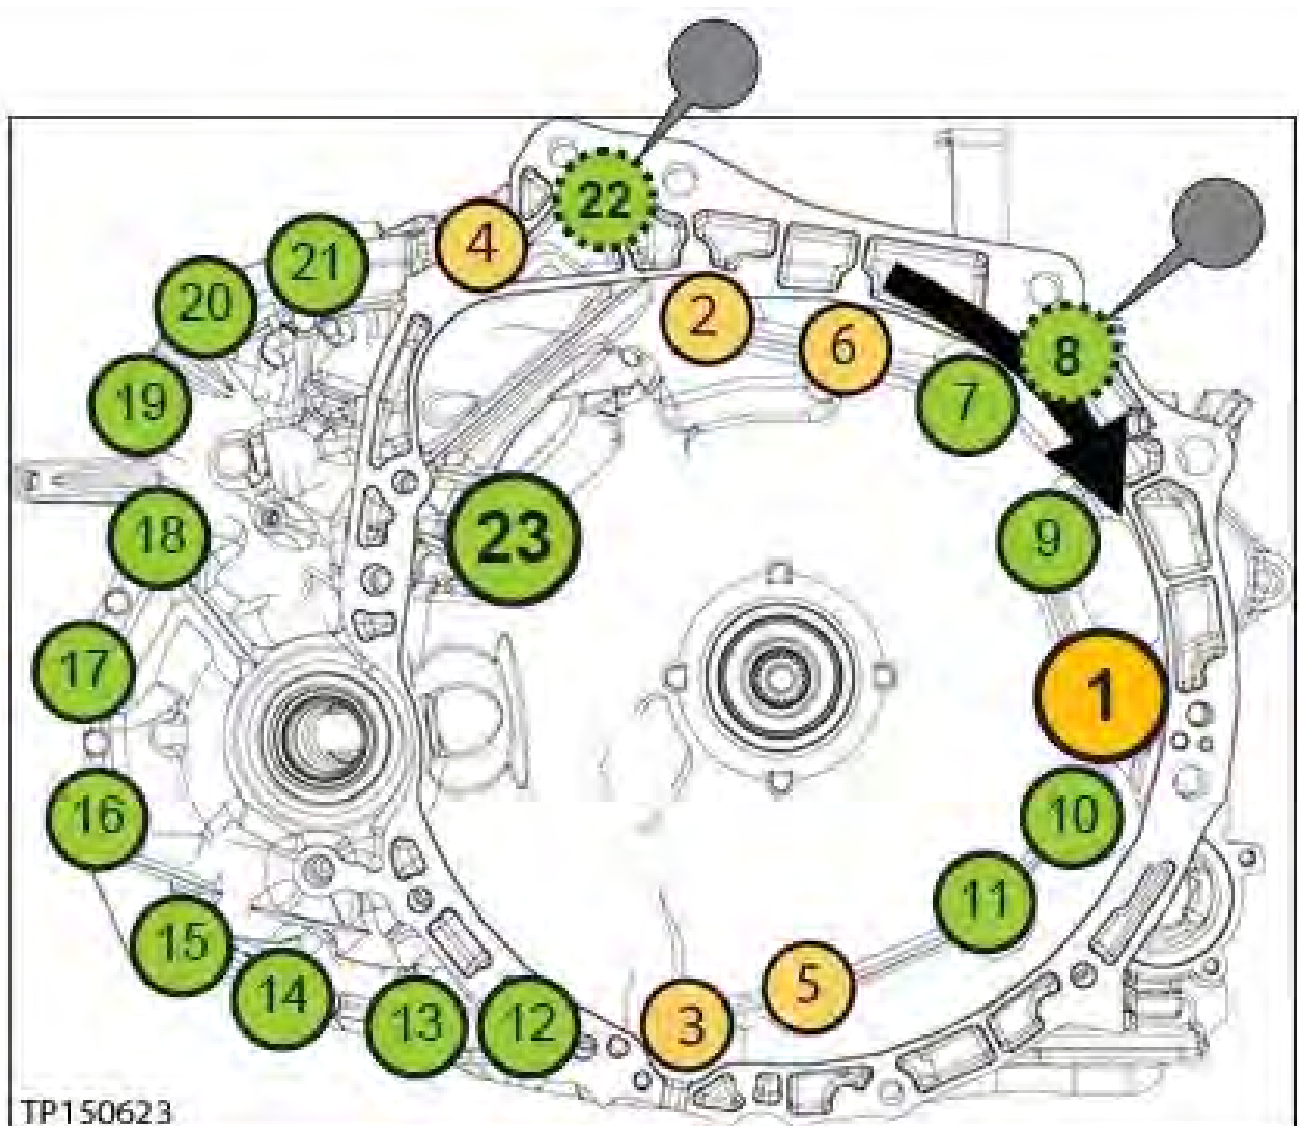

Figure 149
114. Install the converter housing onto the CVT case (see Figure 149 for torque sequence):
- a. Torque the first six (6) bolts with symbol  in numbered sequence (see below).
**IMPORTANT:** Make sure to torque the bolts in the sequence shown (Figure 149).